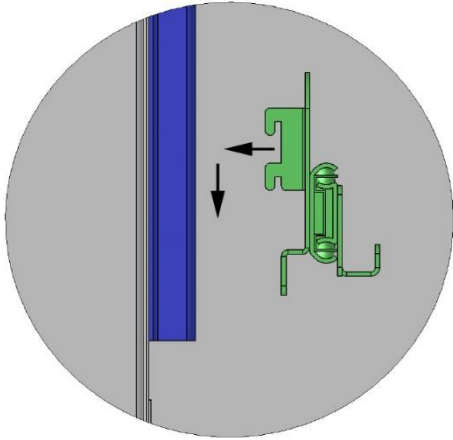

Figure 5: Sliding Shelf Mounting Bracket Installation
1. Insert the sliding bracket's two pairs of tabs (front and back) into the slots on the shelf standards. See Figure 5.